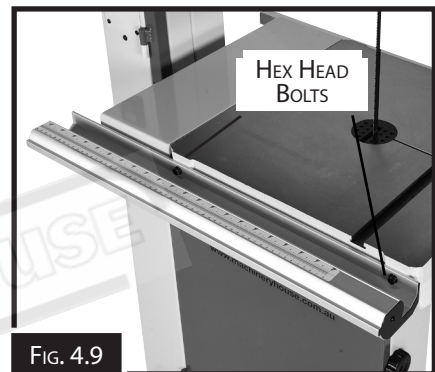

FIG. 4.9
2. Attach the front rail to the table with the two M6 x 20 hex head bolts, 6mm lock washers, and 6mm flat washers. (Fig. 4.9)